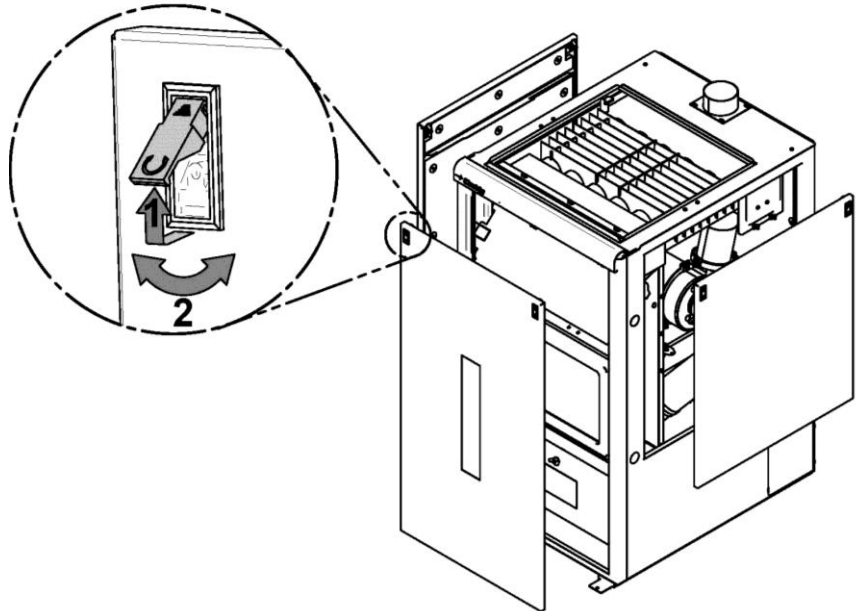

Figure 1
Step 1: The first step consists of removing the front and side panels from the furnace. To do so, use the retractable handles located on each of the panels as illustrated in **Figure 1**.